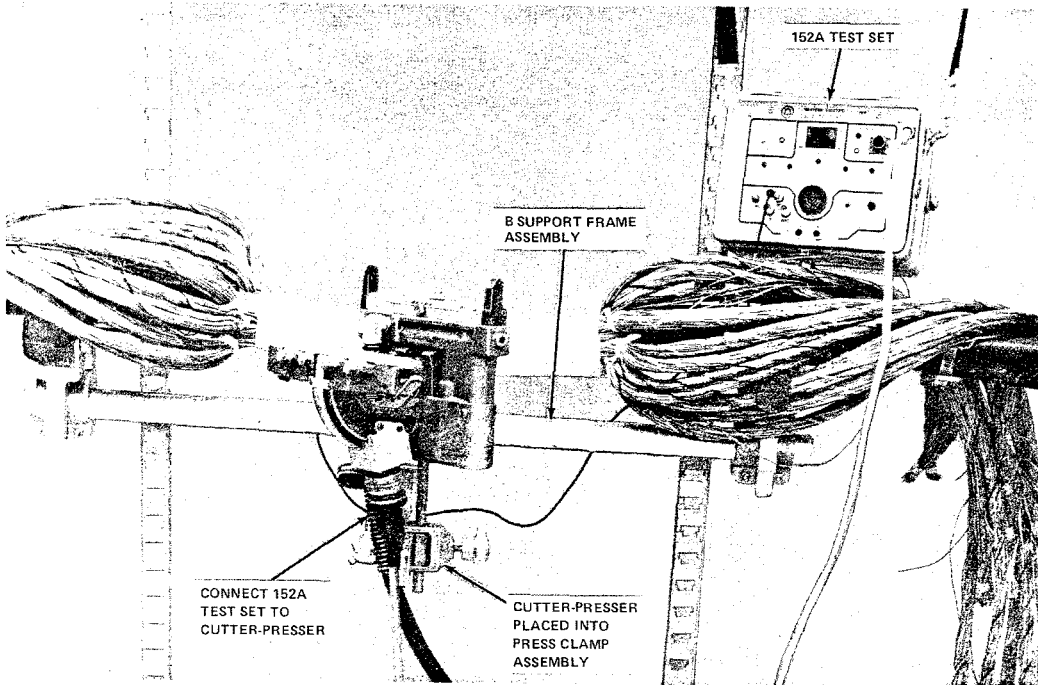

Fig. 31—Installation of Cutter-Presser on Support Frame
4.20 The D, E, or F cutter-presser is installed on the B support frame assembly as follows (Fig. 31):